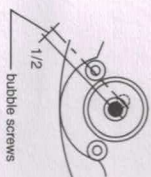

Fig.11
- (2) Using wrench adjust bubble screws to move the bubble to centre (Fig.11).